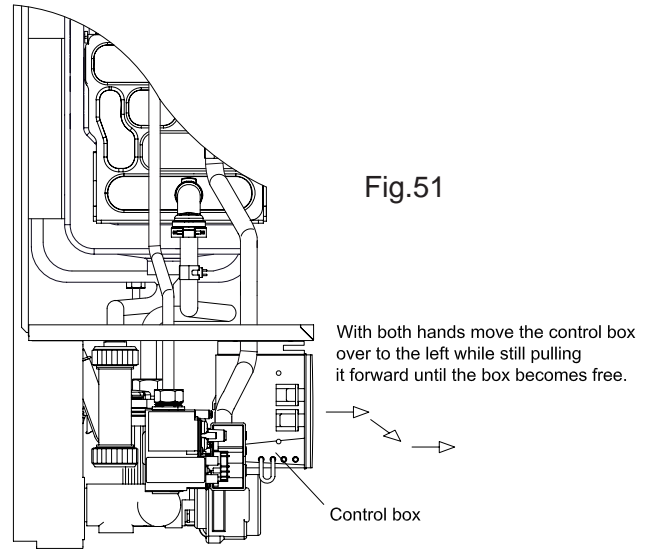

Fig.51
**8.23 TO REMOVE PANEL CONTROL BOX (Fig. 51,52,53).**